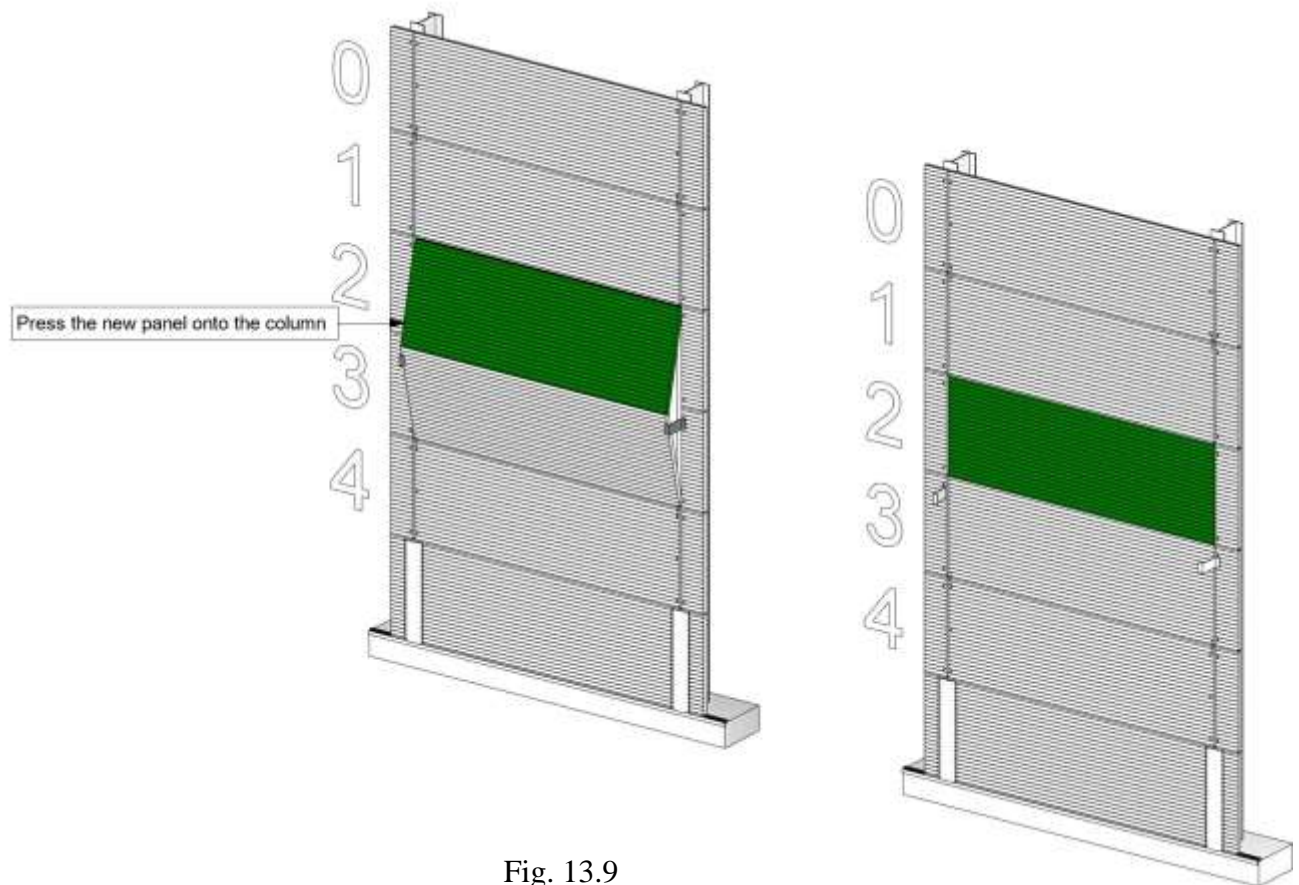

Fig. 13.9
STEP 11. Press the panel onto the column and check whether they are connected correctly (the panel must fit well onto the column) (Figure 13.9).